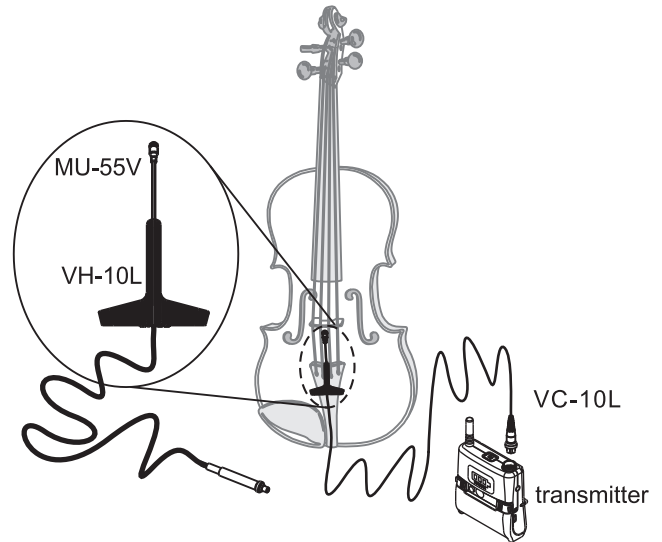

Fig. 38
13. Transmitter Installation, Fig. 38:
- (A) Put the MU-55V microphone and the VH-10L holder together, and then install it on the tailpiece of the violin / viola.
- (B) Connect it with a VC-10L cable to the transmitter.